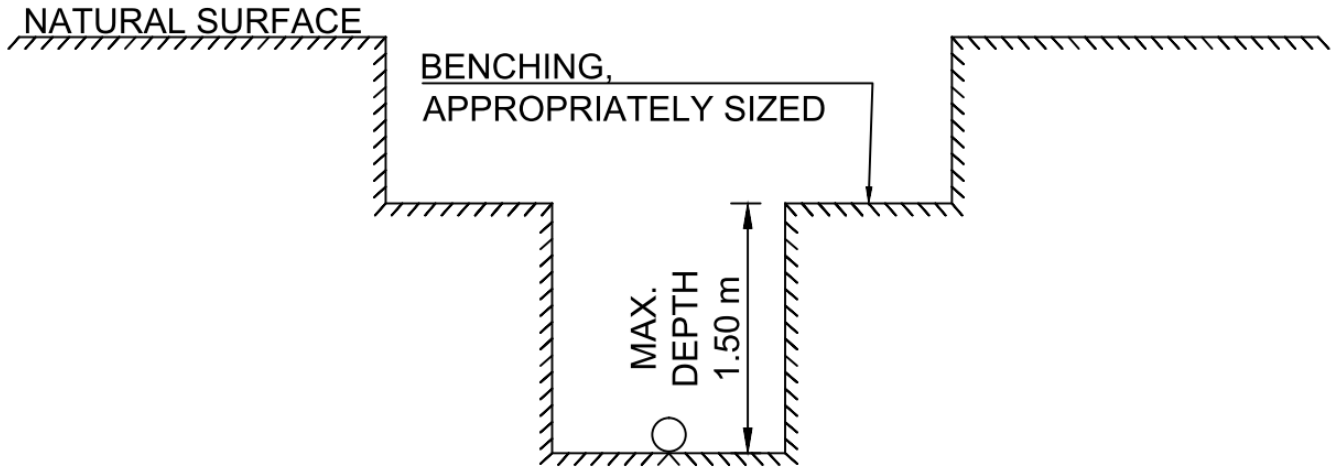

Figure 4 - Benching Diagram
- 9.1.1 All trenches greater than 1.6m deep are to be shored. Shoring may be either timber shoring or moveable metal shield shoring. Where shoring is required, ladders shall be provided. Alternatively, trenches may be benched/stepped to avoid the use of shoring, provided the depth of the deepest trench is not deeper than 1.5m without shoring. Refer to Figure 4 - Benching Diagram.